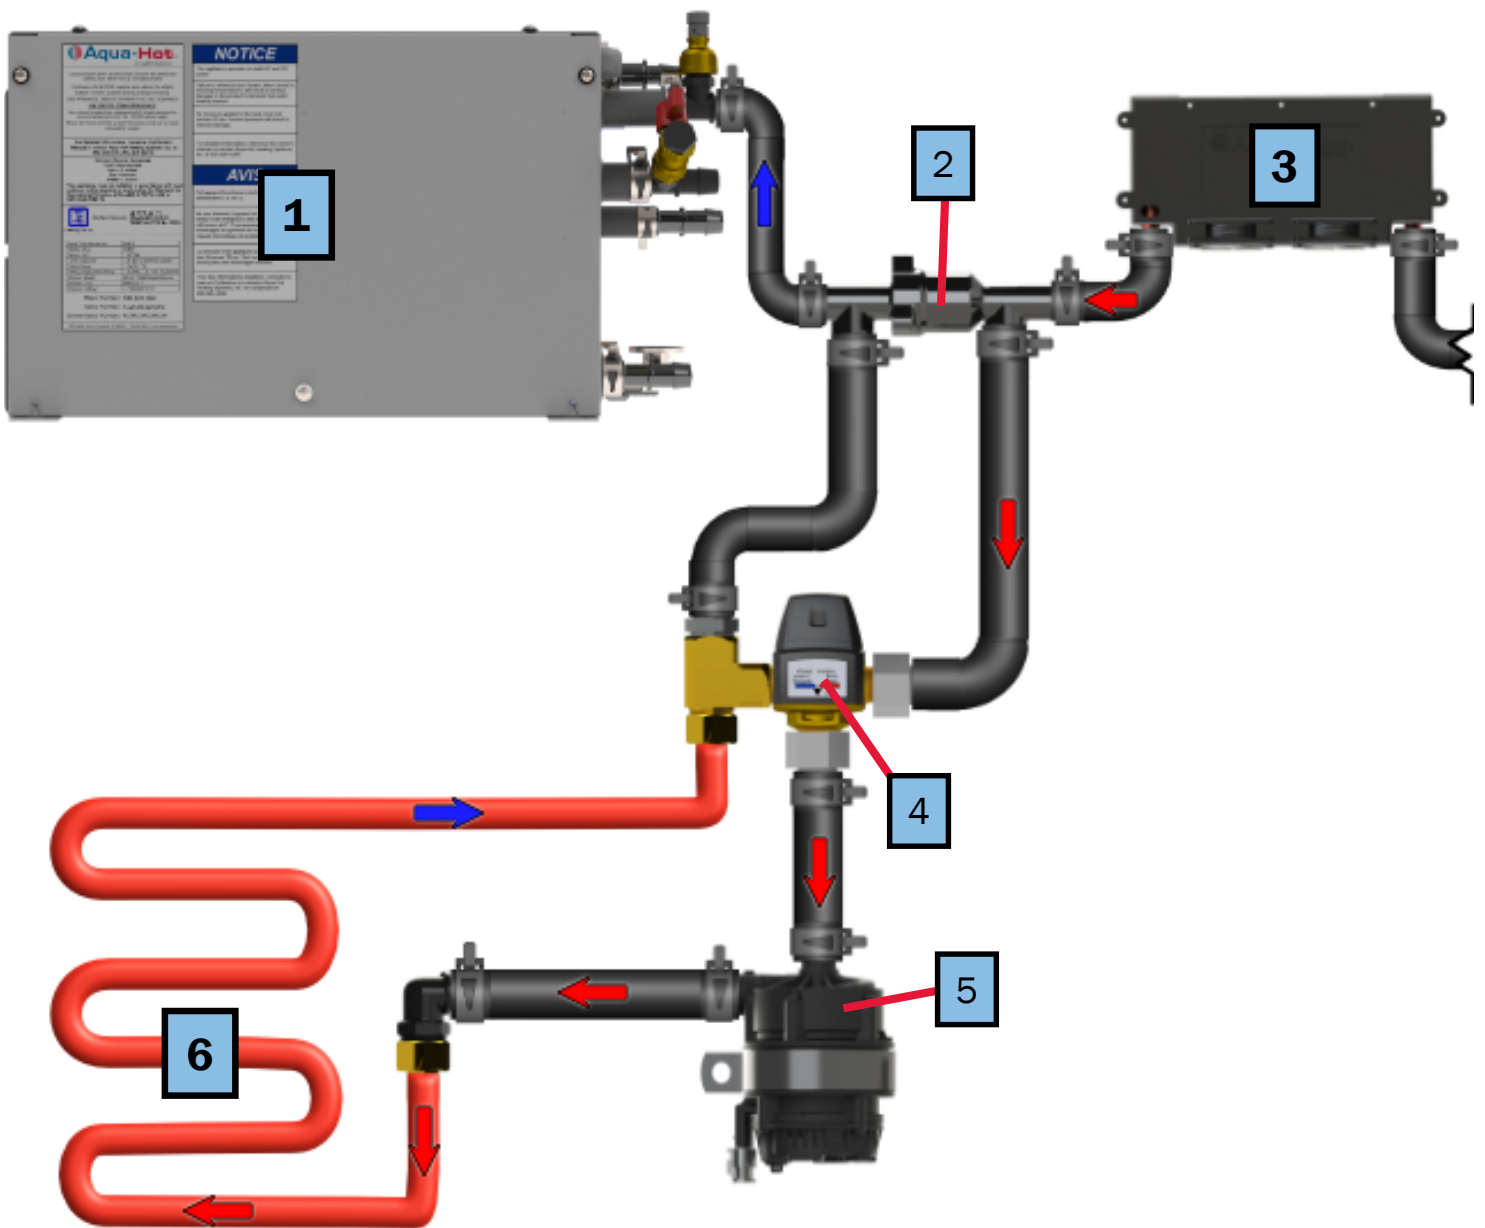

Figure 3
- The plumbing must match the diagram (Figure 3) in order to properly and safely heat the floor. Failure to do so could result in damage to the floor or burner.